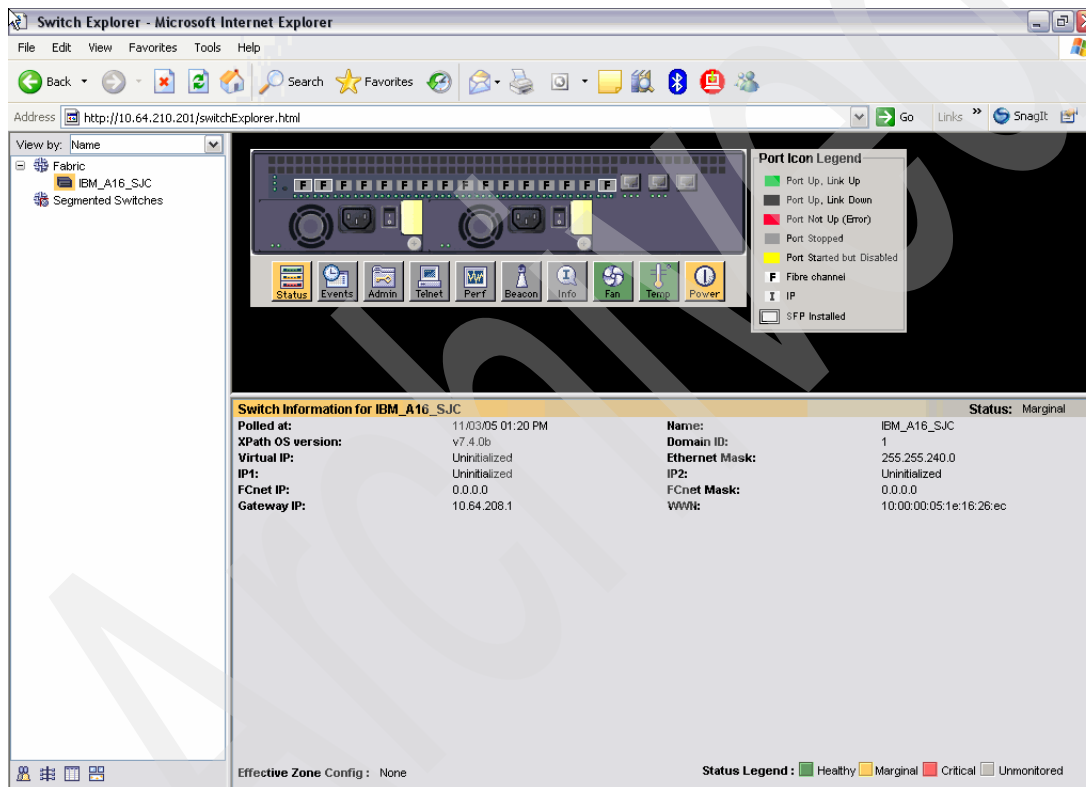

Figure 6-45 Starting point
1. Starting at the main WebTools window (Figure 6-45), we click the port 0 icon.